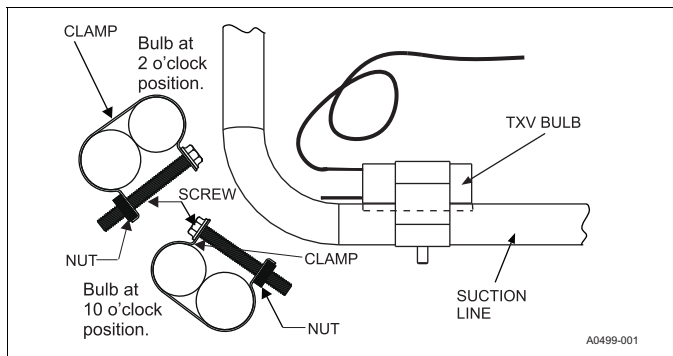

FIGURE 7: Proper Bulb Location
- a. Install the bulb on the suction line near the equalizer line with the bulb horizontal to the suction line. On a suction line under 7/8" Outside Diameter (O.D.), install the bulb on top of the line. On a suction line 7/8" O.D. or larger, install the bulb at about the 2 or 10 o'clock position. See Figure 7.